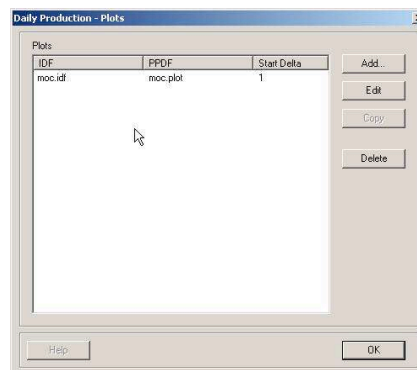

Figure 80: Daily Production - Plots List Screen
- Click "Add" from the "Daily Production – Plots" list page (*see Figure 80*) to add plot requests to the list of pending daily production jobs. Highlight an existing request and click "Edit" to modify an existing request.
- Check the “Include Questionable Quality Data” box to include data that failed Reed-Solomon (RS) checking or quality checking (if applicable).
- Add or edit another request on the “Daily Production – Plots” list page (see Figure 80) or click “OK” when finished adding daily production plot requests.